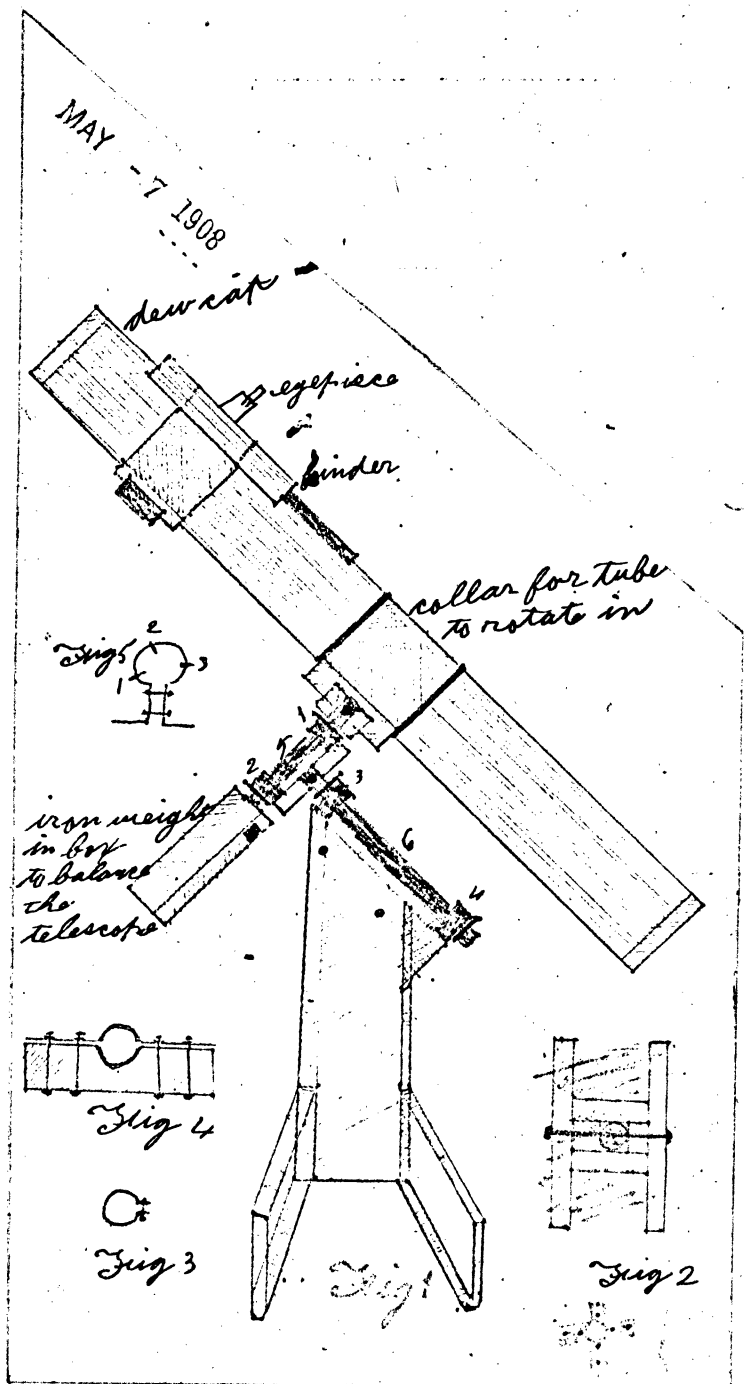

Fig 6
Fig 6 shows the tube with glasses in it, the small flat mirror (3)